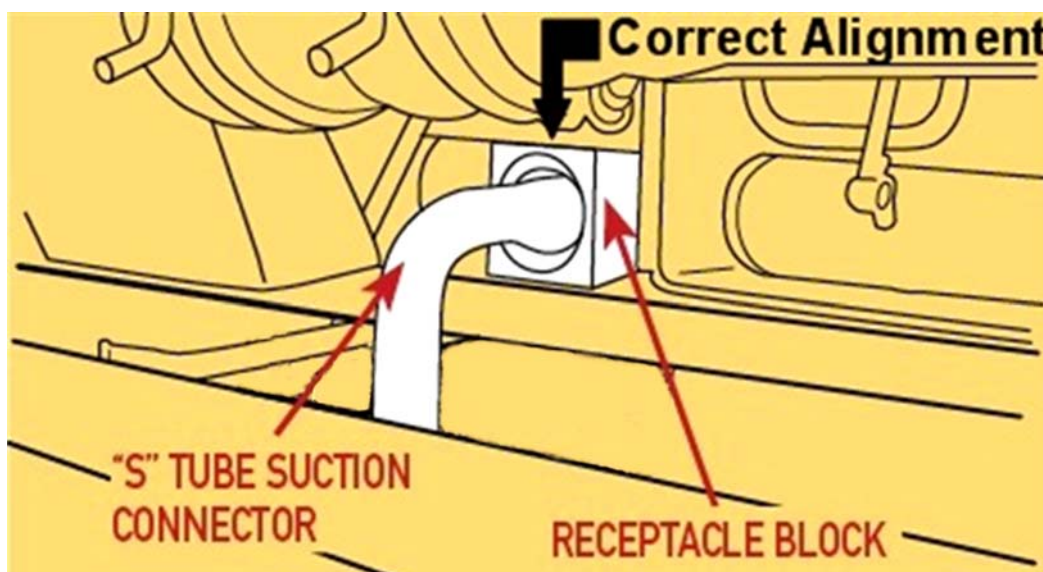

Fig. 5
3. Make sure that the filter drawer is closed completely and that the suction tube and receptacle block are in the correct position. Fig. 5